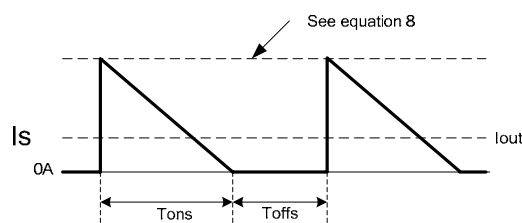

Figure 10. Secondary Current Waveform
The AP3968/69/70/70S is designed to work in constant current (CC) mode. Figure 10 shows the secondary current waveforms.